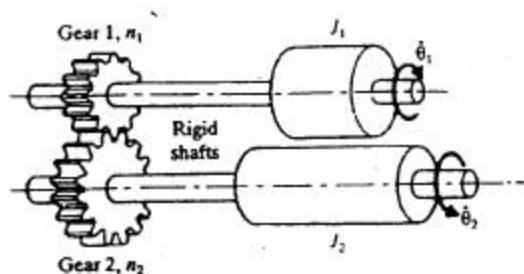

Figure 2
- b. Use kinetic energy to find the equivalent moment of inertia with respect to θ_1 of the system shown in Fig. 2